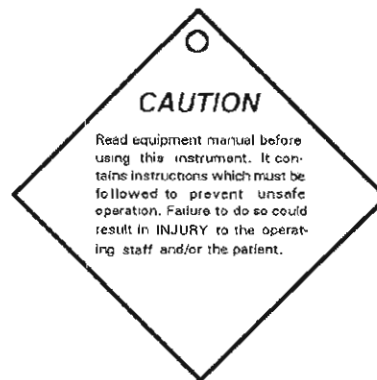

Figure 1-15. Diamond shaped caution tag (low and high speed handpiece).
(7) A diamond shaped caution tag (tied to the low speed handpiece cable and the high speed handpiece cable) is depicted in figure 1-15.